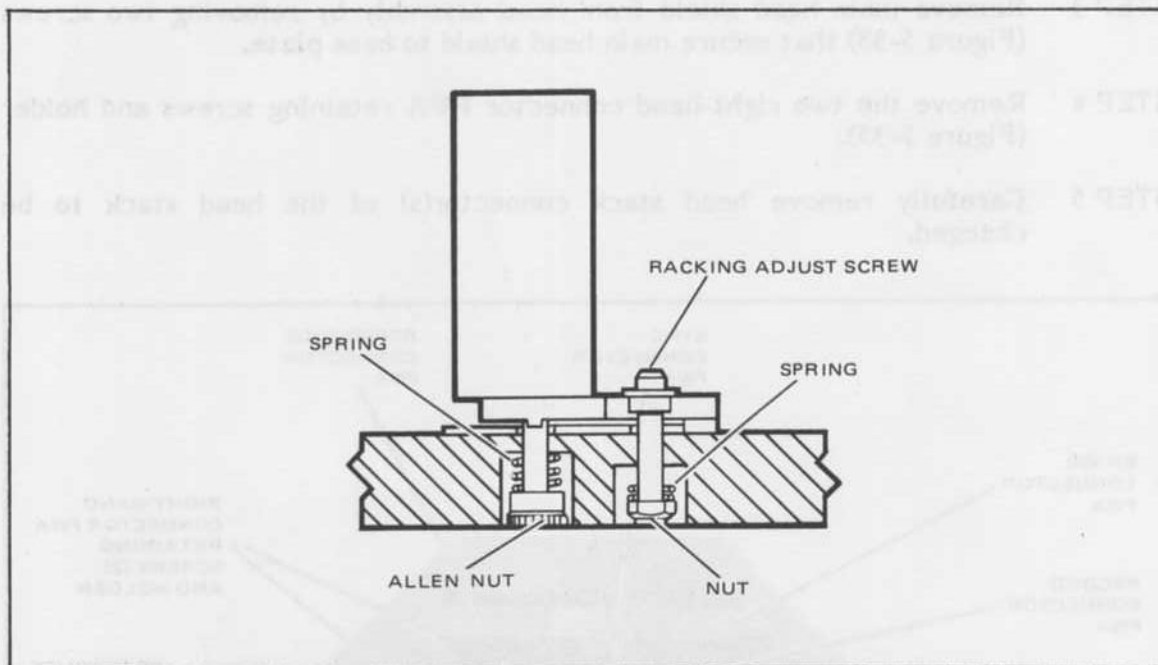

Figure 5-36. Head Assembly Spring-Loaded Pin Locations, Front View
- STEP 7 Remove head stack mounting allen nut and spring under head stack racking adjust screw, spring, and nut behind the head stack (Figure 5-36).